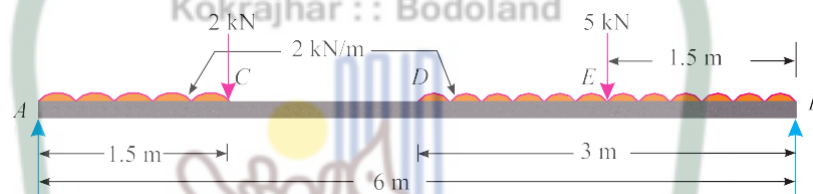

Fig.4
- b) Draw the SFD & BMD for the simply supported beam, loaded as shown in fig. 4. Show all the calculations. 10